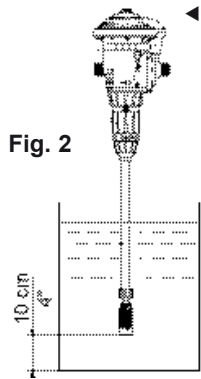

Fig. 2
**IMPORTANT !** - Do not put the suction tube strainer on the bottom of the stock solution container. The strainer must be suspended at least 10 cm [4"] above the bottom of the tank to avoid sucking up the insoluble particles that may damage the injection assembly (Fig.2).